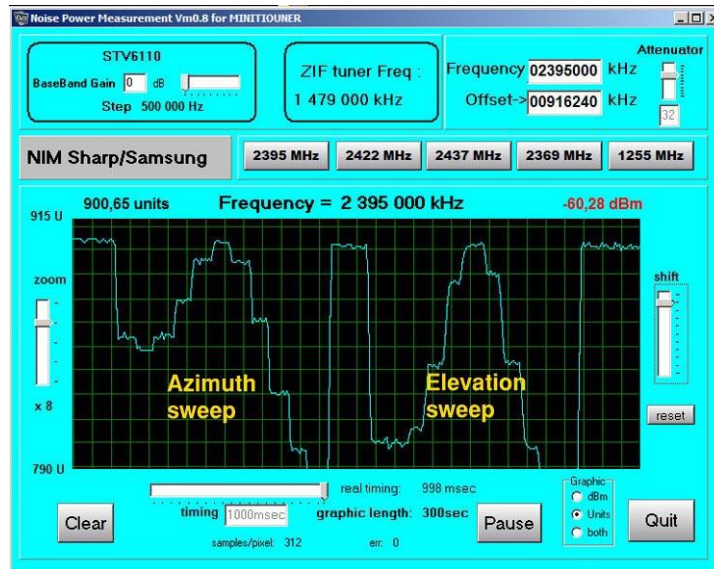

Fig 09 - Display of Noise Power Measurement tool sweeping the Sun with antenna rotator (Courtesy of Jean-Pierre F6DZP)
- sweeping their antenna dish around the good value, to be sure their antenna rotator tracking is set correctly (see **Figure 09**) or
In the example shown in **Figure 09**, we are tracking the Sun, sweeping the antenna at -10°, -8°, -6°, -4°, -2°, 0°, +2°, +4°, +6°, +8°, +10° in azimuth and in elevation. At 0° we must have the top of the pyramid. If you obtain a symmetric pyramid, then your antenna is set well.